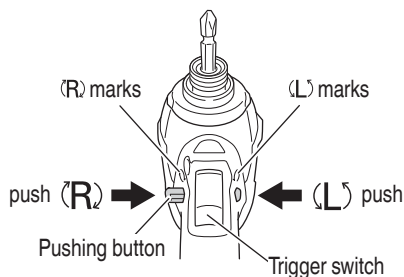

Fig. 10
- The L-side of the pushing button is pushed to turn the bit counterclockwise (See Fig. 10). (The (L) and (R) marks are provided on the body.)